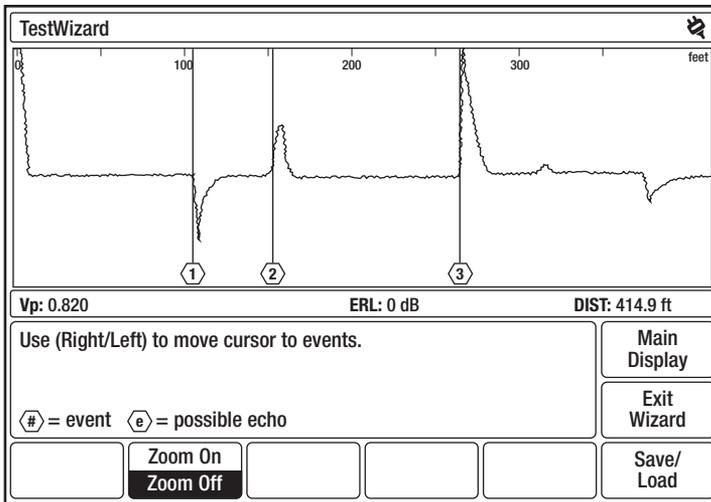

Figure 1-1: TestWizard Measurement Display
4. Press **Next** to display the **TestWizard Measurement** display (Figure 1-1).